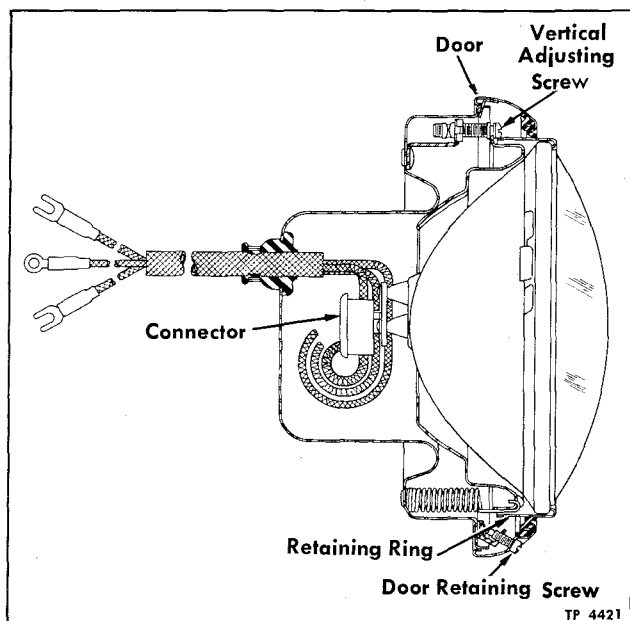

Figure 30—Sectional View of Headlight
Headlights (fig. 30) are double-filament, Sealed-Beam type. The lens, reflector, and filament are a sealed unit and can be replaced only as such. If lens is cracked, filament burned out, or reflec-
Sealed-Beam Unit Replacement (Fig. 30)
4. Remove door retaining screw (fig. 30), and door for access to adjusting screws. Top screw provides vertical adjustment and side screw aims light horizontally.